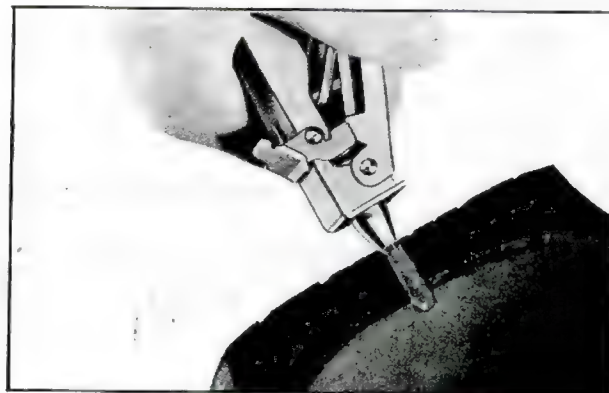

Fig. 18—Inserting Cement in Puncture
7. Press the nozzle of the plug-insertion tool firmly over the puncture hole and squeeze cement from cartridge until red spring on the tool stops the action (fig. 18).